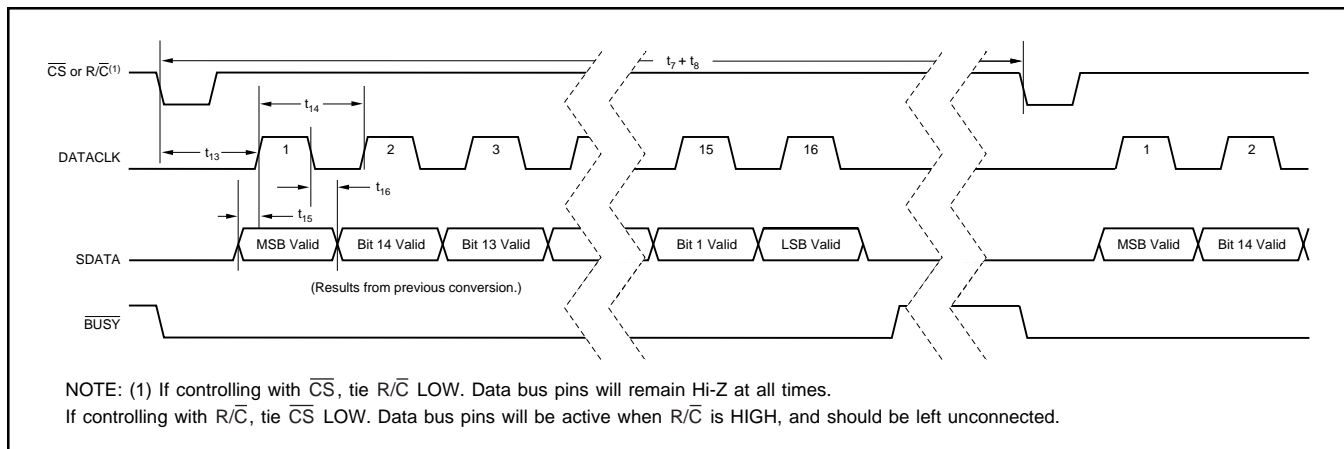

FIGURE 4. Serial Data Timing Using Internal Data Clock (TAG tied LOW).
NOTE: (1) See Figures 4, 5, and 6 for constraints on data valid from conversion "n-1".
To use the internal data clock, tie  $\text{EXT}/\overline{\text{INT}}$  (pin 8) LOW. The combination of  $R/\overline{C}$  (pin 22) and  $\overline{\text{CS}}$  (pin 23) LOW will initiate conversion 'n' and activate the internal data clock (typically 900kHz clock rate). The ADS7807 will output 16 bits of valid data, MSB first, from conversion 'n-1' on SDATA (pin 19), synchronized to 16 clock pulses output on DATACLK (pin 18). The data will be valid on both the rising and falling edges of the internal data clock. The rising edge of  $\overline{\text{BUSY}}$  (pin 24) can be used to latch the data. After the 16th clock pulse, DATACLK will remain LOW until the next conversion is initiated, while SDATA will go to whatever logic level was input on TAG (pin 20) during the first clock pulse. Refer to Table VI and Figure 4.